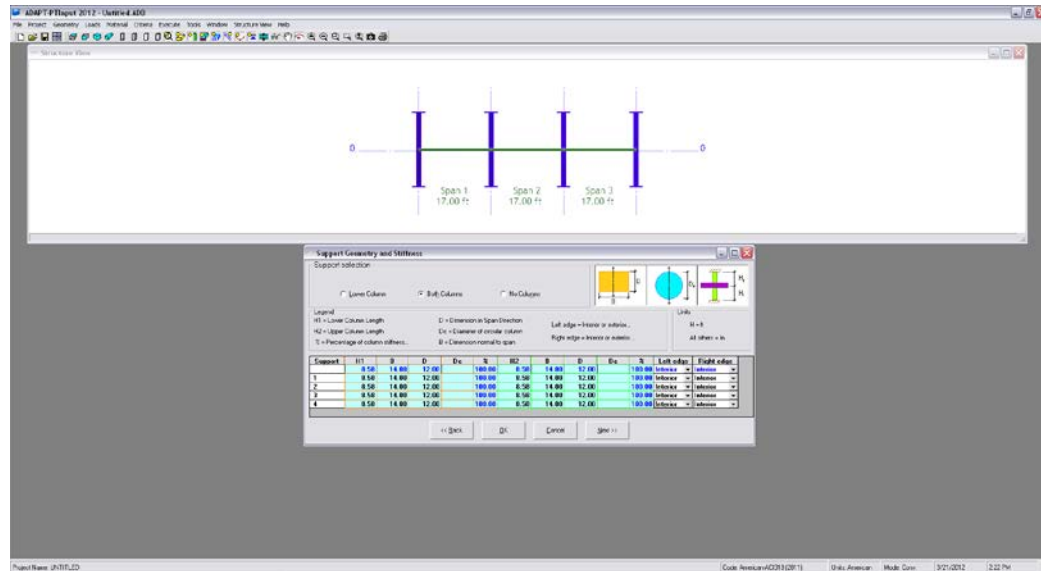

FIGURE 3.1-5
3.1.2.2 Enter Support Geometry (Fig. 3.1-5)
Next, enter the dimensions of the supports. **B** is the dimension of the column cross- section normal to the direction of the frame. **D** is the column dimension parallel to the frame. Enter the given column dimensions as in **Figure 3.1-5**.